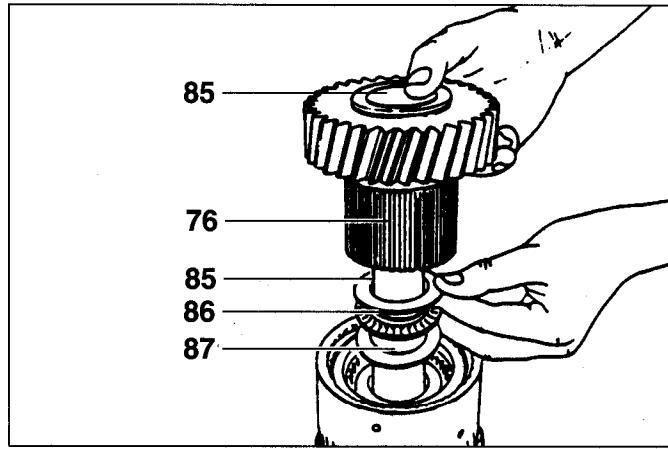

Fig. 27
- 7) Install on second spacer (87), the thrust needle bearings (86) and thrust washer (85) install clutch hub pinion (76) and make sure that all inner clutch plates (71) are engaged on spline pinion end. Fit on clutch hub pinion (76) thrust washer (85) and needle bearing (86) (Fig. 27). Install the thrust washer (78).
- 8) Verify with a dial gage that a 0.3 - 0.5 mm, end play between needles of bearing (86) and race (78) is
- assiale a rulli (86). Montare il rasamento (78) (Fig. 27).